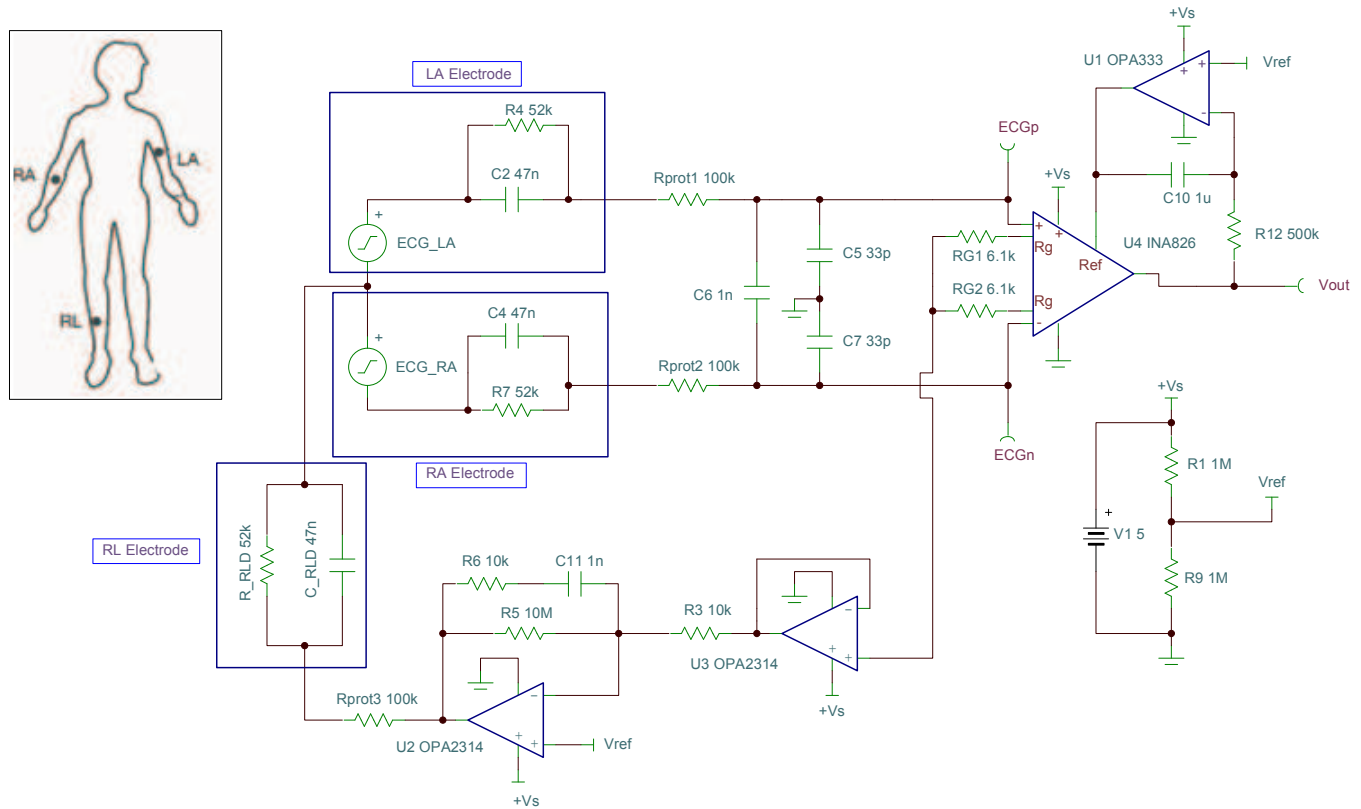

Figure 67. ECG Circuit
Figure 67 is an example of a LEAD I ECG circuit. The input signals come from leads attached to the right arm (RA) and left arm (LA). These signals are simulated with the circuitry in the corresponding boxes. Protection resistors ( $R_{PROT1}$  and  $R_{PROT2}$ ) and filtering are also provided. The OPA333 is used as an integrator to remove the gained-up dc offsets and servo the INA826 outputs to  $V_{REF}$ . Finally, the right leg drive is biased to a potential ( $+V_S/2$ ) and it inverts and amplifies the average common-mode signal back into the patient's right leg. This architecture reduces the 50-/60-Hz noise pickup. Click the following link to download the TINA-TI file: ECG Circuit.